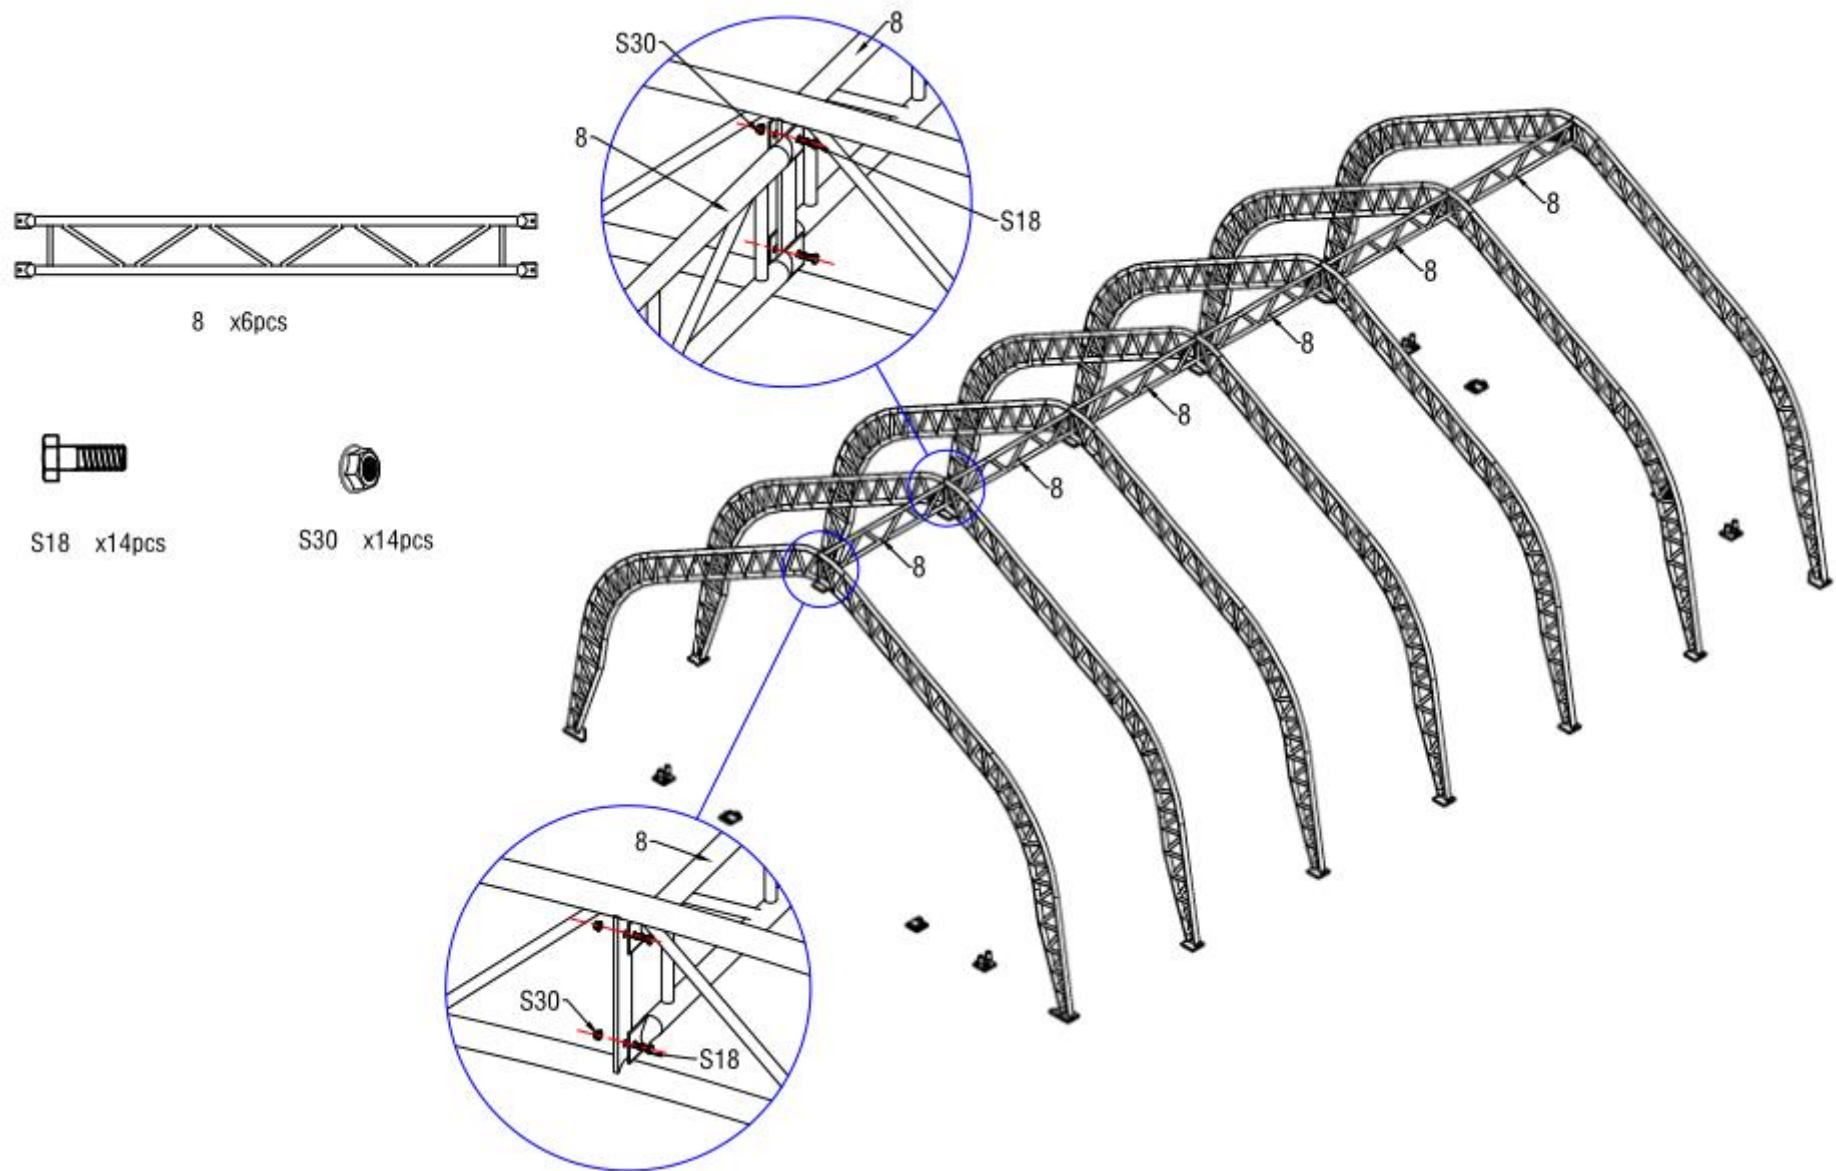
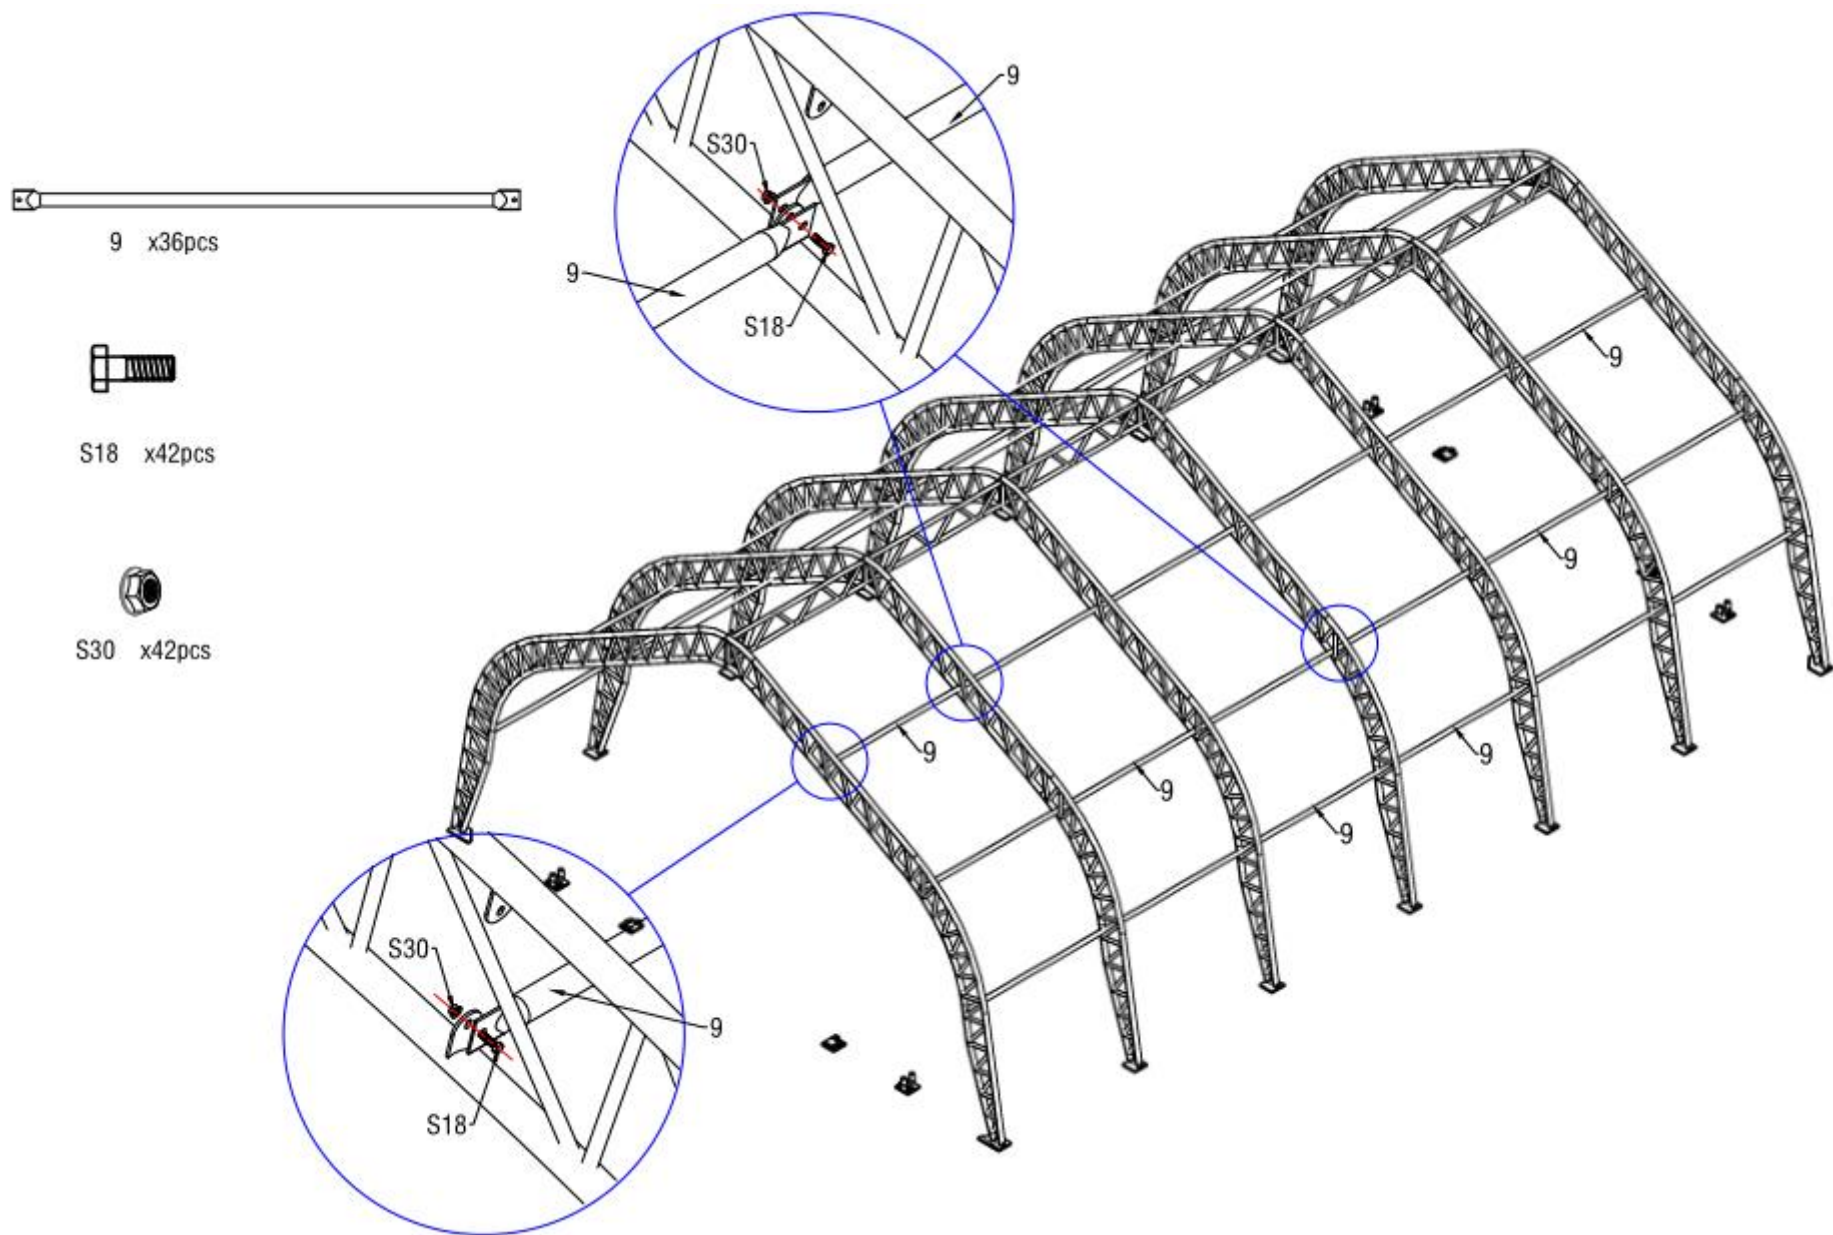

Figure 7
Figure 8
4. Above Figure 7 shown when finish installing all the arches into the base plates, use Double Trussed Purlins (No.8) to connect them by Screw M10x30 (No.S18) . Then use Purlins(No.9) to connect the arches by Screw M10X30 (No.18). In this turn, fix all other purlins. Finished stretch frame as below(Figure 8)
5. Fix clips(No.14) on purlins(No.9) and install the Diagonal Support Tube For purlin (No.10) on clips as figure 8 shows. Please connect the Diagonal Support Tube For purlin (No.10) between arch frame and purlin (No.9) by using Screw M10x30(No.S18) and Screw M10x50(No.S17) with plain washer M10(No.25).